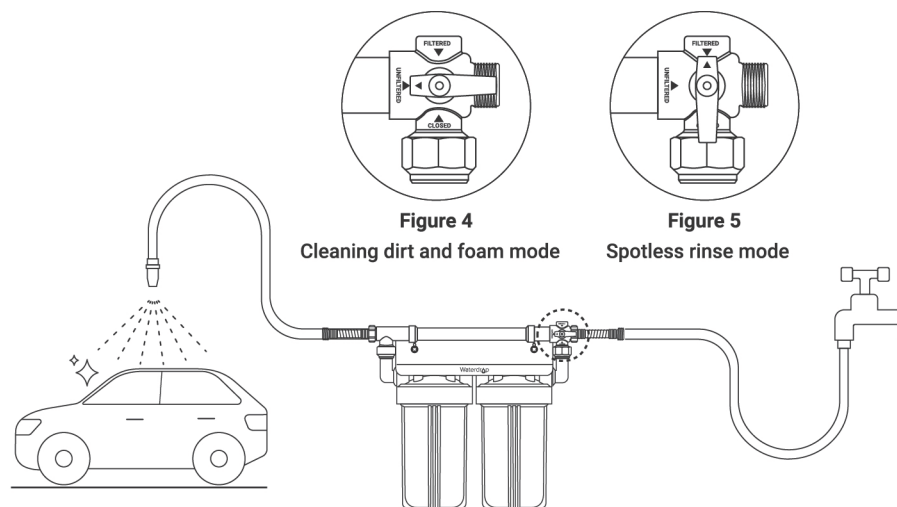

Figure 4
5. When washing the car, except for the last rinse, please rotate the three-way ball valve to the unfiltered position (Figure 4), use the original water to rinse the mud and foam. For the last rinse, rotate the three-way ball valve to the filtered position (Figure 5), and use filtered water to remove the ions for the final rinse. This can ensure spotless car washing effect and prolong the service life of the filter element.